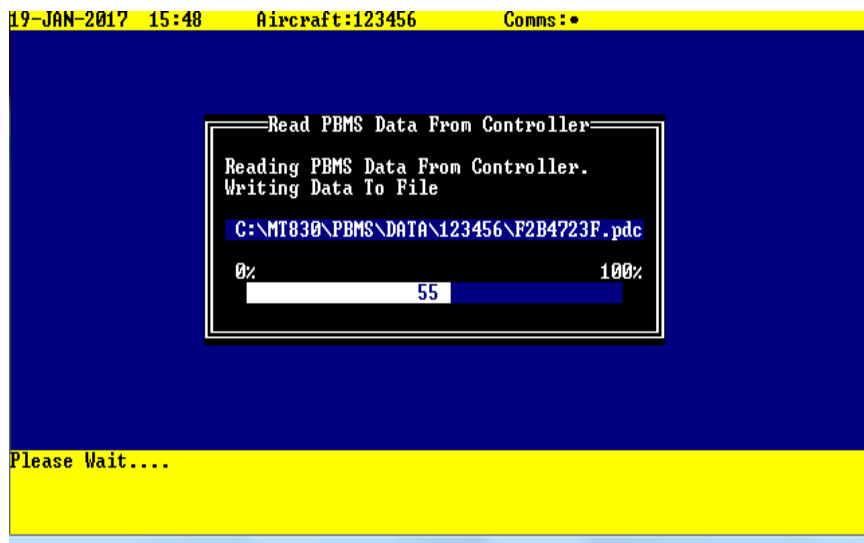

Figure 2-6 Read PBMS Data from ANCU Screen
NOTE: DURING THIS SEQUENCE A NUMBER OF DIFFERENT SCREENS WILL BE SHOWN ON THE PBMS TERMINAL DISPLAY. ON COMPLETION, IF SUCCESSFUL, THE SCREEN SHOWN BELOW WILL BE DISPLAYED ON THE PBMS TERMINAL DISPLAY (REFER TO FIGURE 2-6).
- (3) The PBMS Terminal will then read data from the ANCU and write the data into a file (the file name is shown on the screen). The PBMS Terminal provides an indication of progress (Ref Figure 2-6).
- (4) After reading data from the ANCU to the PC, the data will then be read into the PBMS Terminal ready for use.